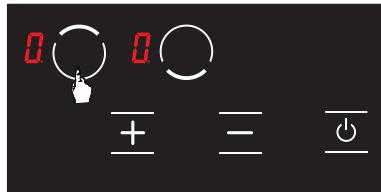

Figure 15
2. Press the upper hob selection key (\square) again. (See Fig. 15)